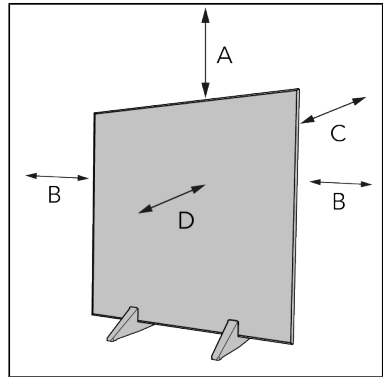

Figure 14.
4. Place the device with a minimum clearance distance (Figure 14) of: